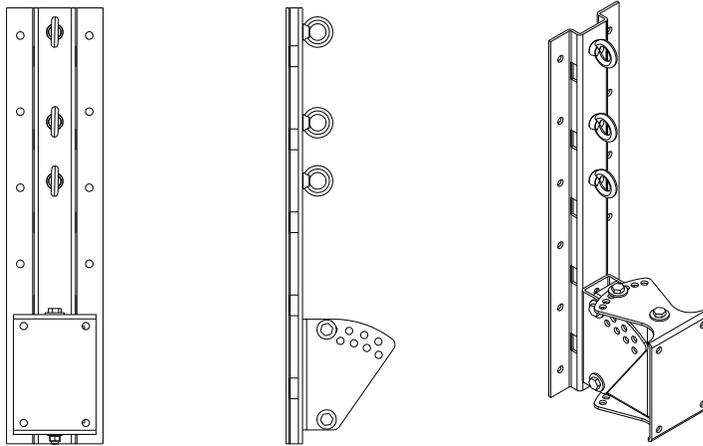
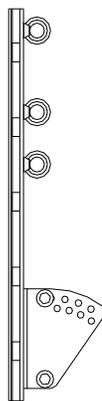

Figure 1
Figure 1a
The PT-70-2 and PT-35-2 consist of three parts: the wall bracket, the loudspeaker bracket, and the Link. The PT-70-2 wall bracket and loudspeaker bracket are shown in Figure 1. Figure 1a shows the wall bracket portion of the PT-70-2. The PT-70-2 bracket allows the loudspeaker to be oriented from a 0 degree down tilt to a maximum down tilt of 35 degrees in 5 degrees increments. The PT-35-2 allows a down tilt of 40 degrees in 8 degree increments.
1. Mount the wall bracket section (see figure 1a) of the bracket to the pole at the desired height on the pole. The bracket is mounted to the pole using BAND-IT stainless steel bands. DO NOT SUSTITUTE bands of other material or other widths! There are five locations on the pole bracket for bands. ALL 5 LOCATIONS MUST BE USED on the PT-70-2. There are 3 locations for the PT-35-2 and ALL 3 slots MUST BE USED. Figure 6 below illustrates the locations for the stainless steel band clamps.(PT-70 is shown)